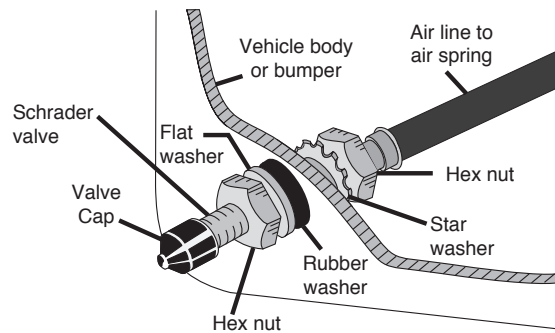

fig. 12
4. Place a 5/16" nut and star washer on the air valve. Leave enough of the inflation valve in front of the nut to extend through the hole and have room for the rubber washer, flat washer, and 5/16" nut and cap. There should be enough valve exposed after installation – approximately 1/2" – to easily apply a pressure gauge or an air chuck (Fig. 12).